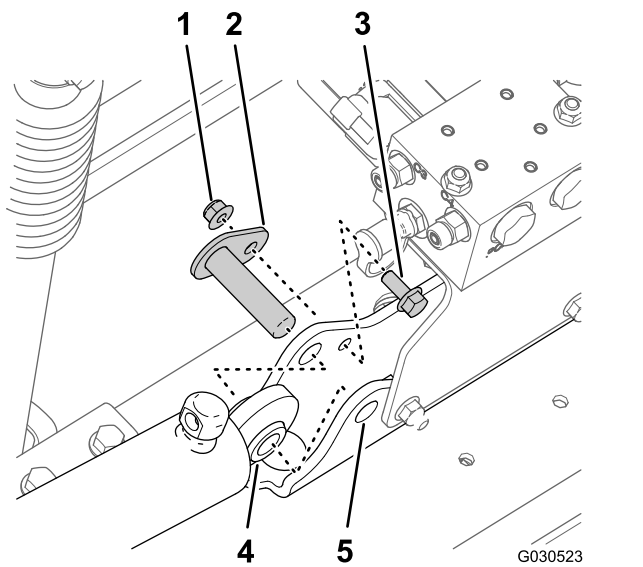

Figure 39
3. Remove the flange locknut (5/16 inch) and flange-head bolt (5/16 x 3/4 inch) that secures the pivot pin to the cylinder mount (Figure 39).
4. Remove the pivot pin and the lift cylinder from the machine (Figure 39).